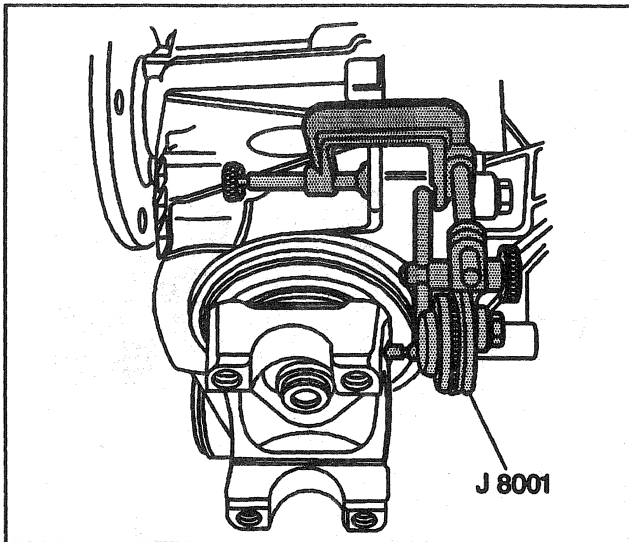

Figure 38—Measuring Backlash at the Pinion Flange
1. Install a dial indicator so the button contacts the outer edge of the pinion flange. The plunger must be at a right angle to the pinion flange (Figure 38).